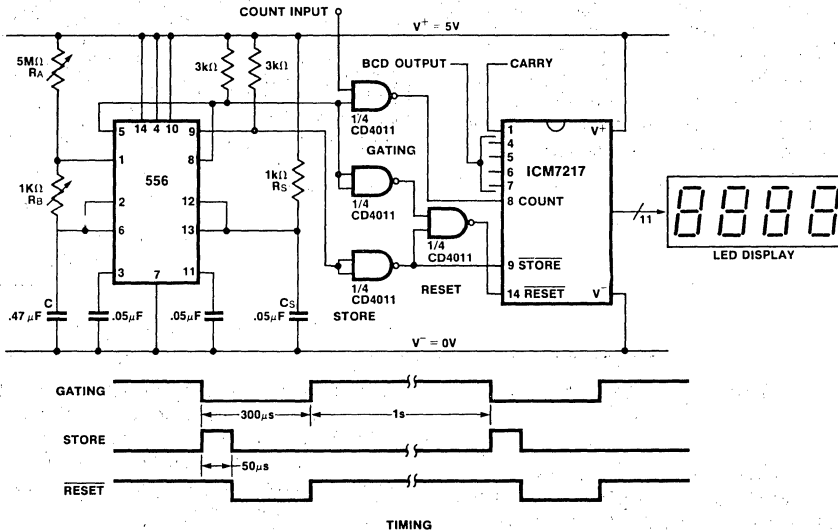

Figure 12: Inexpensive Frequency Counter
This circuit uses an ICM7213 precision one minute/one second timebase generator and a 4.1943 MHz crystal oscillator and divider for generating pulses counted by an ICM7217B. The thumbwheel switches allow a starting time to be entered into the counter for a preset-countdown type timer, and allow the register to be set for compare functions. For instance, to make a 24-hour clock with BCD output the register can be preset with 2400 and the Equal output used to reset the counter. Note the 10k resistor connected between the LC terminal and V^- . This resistor pulls the LC input low when not loading, thereby inhibiting the BCD output drivers. This resistor should be eliminated and SW4 replaced with an SPDT center-off switch if the BCD outputs are to be used. This technique may be used on any 3-level input. The 100k pullup resistor on the count input is used to ensure proper logic voltage swing from the ICM7213. For a less expensive (and less accurate) timebase, a 555 timer may be used in a configuration like that shown in Fig. 12 to generate a 1Hz reference.
7. INEXPENSIVE FREQUENCY COUNTER/ TACHOMETER (Figure 12)
Note that in comparison to Fig. 12, the store and reset signals are generated by CD4000 series one-shots. The operation of the two circuits is similar.